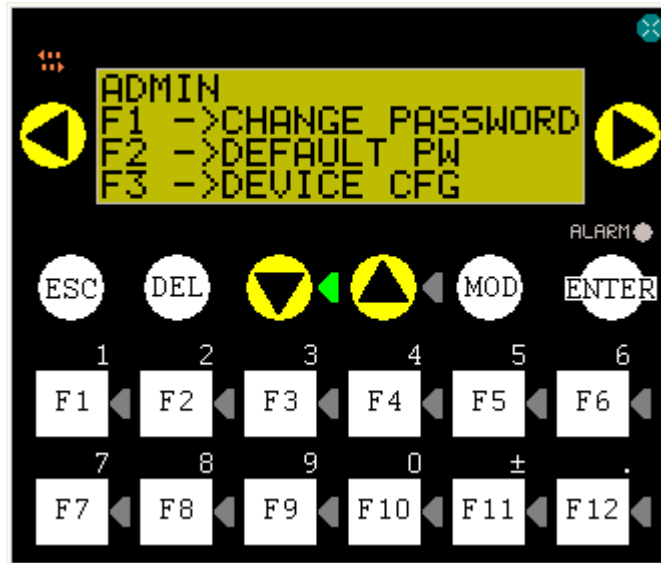

Figure 5
3. On the menu you will see “Admin” as a selection. Push the corresponding button. The screen will now show the admin menu. See Figure 5.
4. Press the “Mod” key. Till you select which password you wish to change. See figure 5.